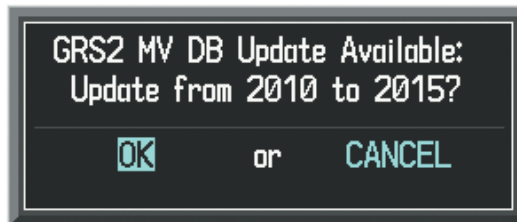

Figure B-15 GRS2 Magnetic Field Variation Database Update Prompt
- 3) The system displays a prompt for the next GRS upload is displayed, as seen in Figure B-15.